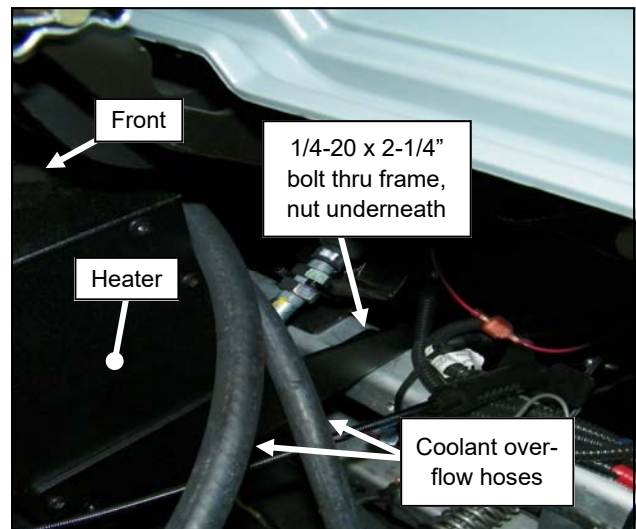

Fig. 4.5
- 4.5 Secure the rear heater bracket to the Carryall cross frame with a 1/4-20 x 2-1/4" bolt and nut, through the hole in the frame. Leave loose. See figure 4.5.